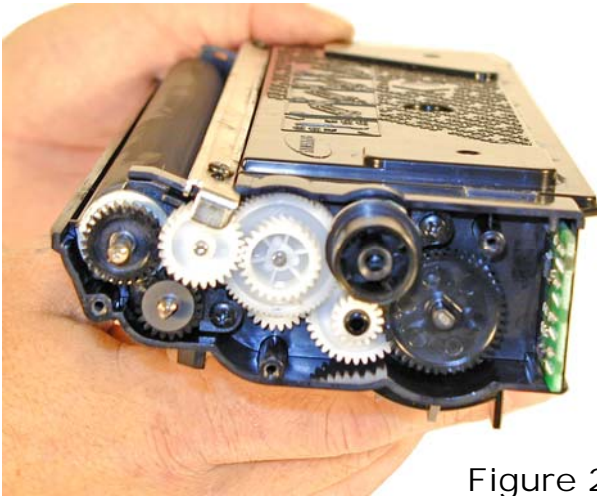

Figure 20
17) Install the gears, start from left to right, and put the inside gears in place first. See **Figure 20**